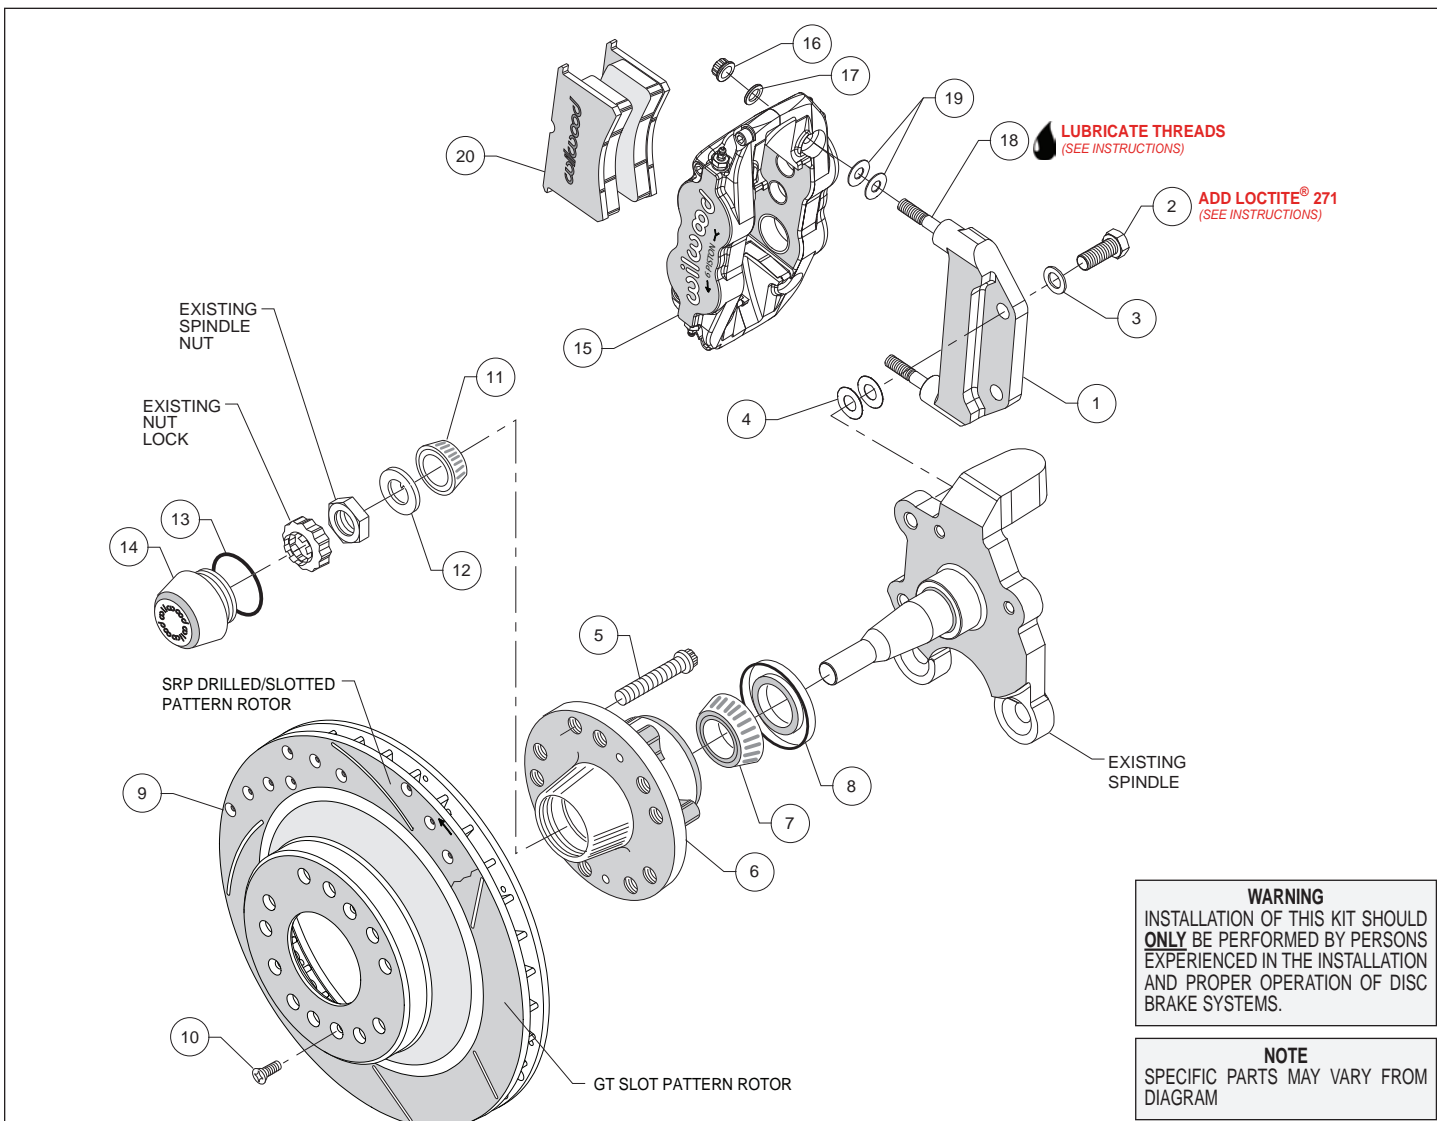

Figure 1. Typical Installation Configuration
**Assembly Instructions** (numbers in parenthesis refer to the parts list on the preceding page, and Figure 1):
- The caliper mount bracket (1) should initially be installed with clean, dry threads on the mounting bolts. Orient the bracket as shown in Figure 1, and install using bolts (2) and washers (3). Initially place two .015" thick shims (4) on each bolt between the bracket and upright, Figure 1 and Photo 1. Temporarily tighten the mounting bolts. **NOTE:** *The bracket must fit squarely against the mount bosses on the upright.* Inspect for interference from casting irregularities, machining ridges, burrs, etc. Later, after the caliper alignment has been checked, the mount bolts will be secured using red *Loctite*® 271.
- **NOTE:** This kit contains distinct right and left hand calipers that must be mounted in a specific direction, as described below. Lubricate the caliper mounting studs (18) with lightweight oil. Initially place two .035" thick shims (19) on each stud between the caliper and the bracket, as shown in Figure 1 and Photo 6. Mount the caliper (15) onto the bracket (1) using lock nuts (16) and washers (17), Figure 1. Ensure that the caliper is mounted so the largest pistons are at the rotor exit end of the caliper, in relation to the direction of rotor rotation. Temporarily tighten the lock nuts and view the rotor through the top opening of the caliper. The rotor should be centered in the caliper, Photo 7. If not, adjust by adding or subtracting shims (4) between the bracket and the upright. Always use the same amount of shims on each of the two mounting bolts. Once the caliper alignment is correct, remove the bracket mounting bolts one at a time, apply red *Loctite*® 271 to the threads, and torque to 77 ft-lb.